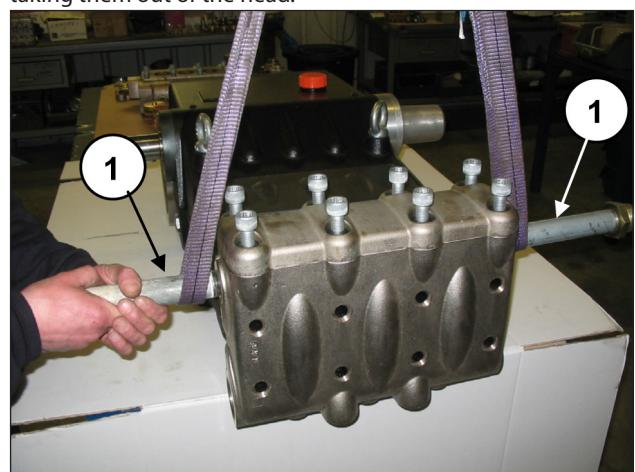
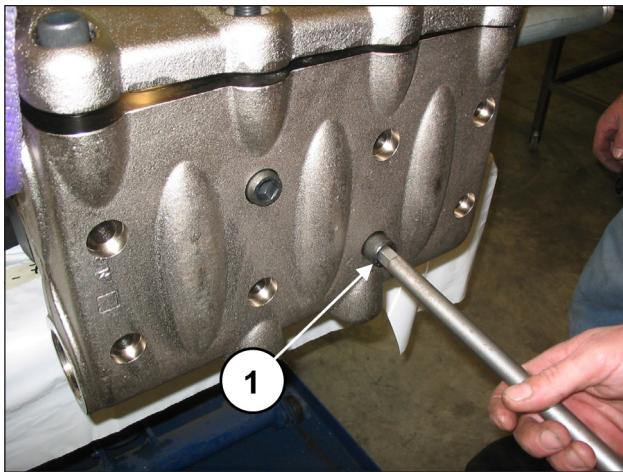

Fig. 104
Fig. 105
Apply two supports with G2" threading to the outlet connections of the head (pos. ①, Fig. 104) and then unscrew the 8 M16x150 screws (pos. ①, Fig. 105). Take care to not subject the pistons to knocks or bumps when taking them out of the head.